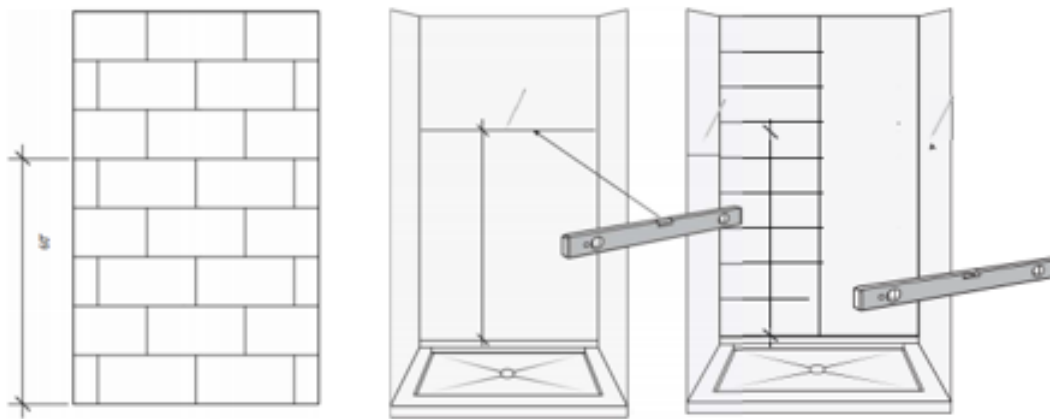

figure 9
5. To prepare for panel installation, locate a horizontal control line (CL) which will be used throughout the installation. (see figure 9)
- c. Mark it, using a level to draw a line across the back wall. This will be the control line (CL).